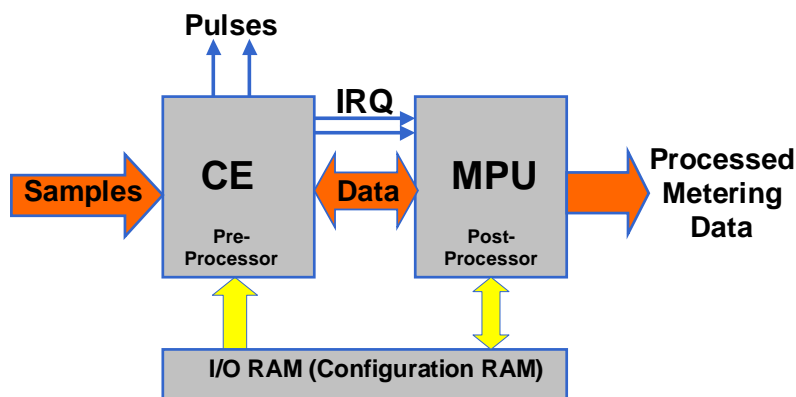

Figure 25: MPU/CE Data Flow
The data flow between CE and MPU is shown in Figure 25. In a typical application, the 32-bit compute engine (CE) sequentially processes the samples from the voltage inputs on pins IA, VA, IB, and VB, performing calculations to measure active power (Wh), reactive power (VARh), A2h, and V2h for four-quadrant measurement. These measurements are then accessed by the MPU, processed further and output using the peripheral devices available to the MPU.